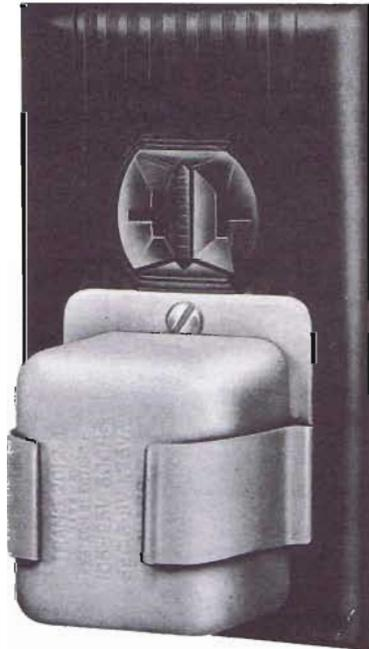

Fig. 4 — 2A Clamp
6.04 The 2A clamp shown in Fig. 4 is used with 2012-type transformers for securing them to service outlets.